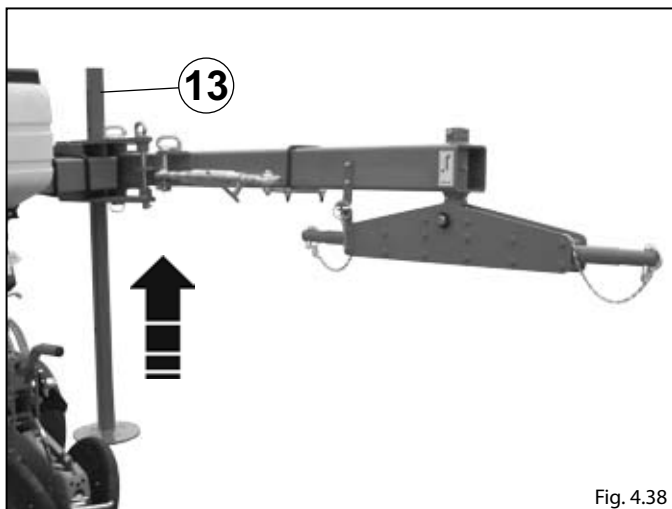

Fig. 4.38
- Lift the support foot **13** (Fig.4.38).